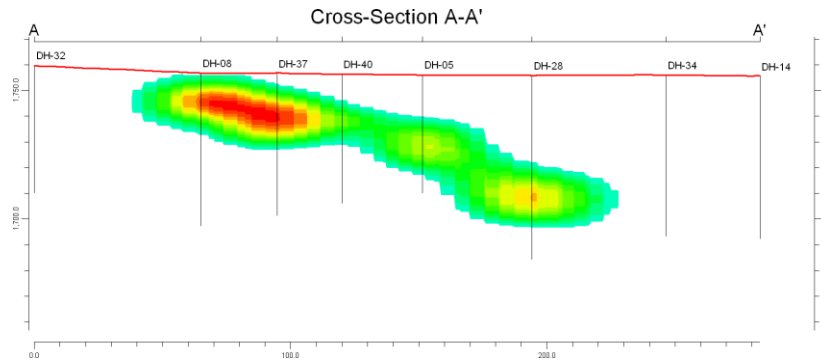

Figure 83
- Press the *Continue* button and a cross-section (Figure 83) should appear.